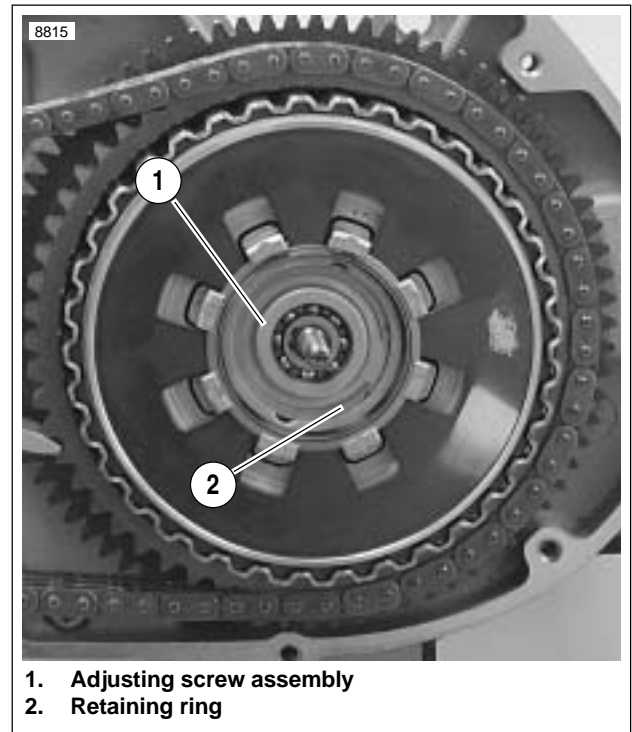

Figure 6-38. Clutch Adjusting Screw Assembly and Retaining Ring
- a. See Figure 6-38. Align two tabs on perimeter of release plate with corresponding recesses in pressure plate.